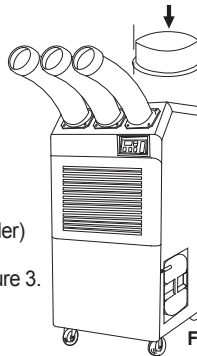

Figure 4
3. Use screws (enclosed inside of box with the top fan exhaust flange) to install the top fan exhaust flange on air conditioner as shown in Figure 4.